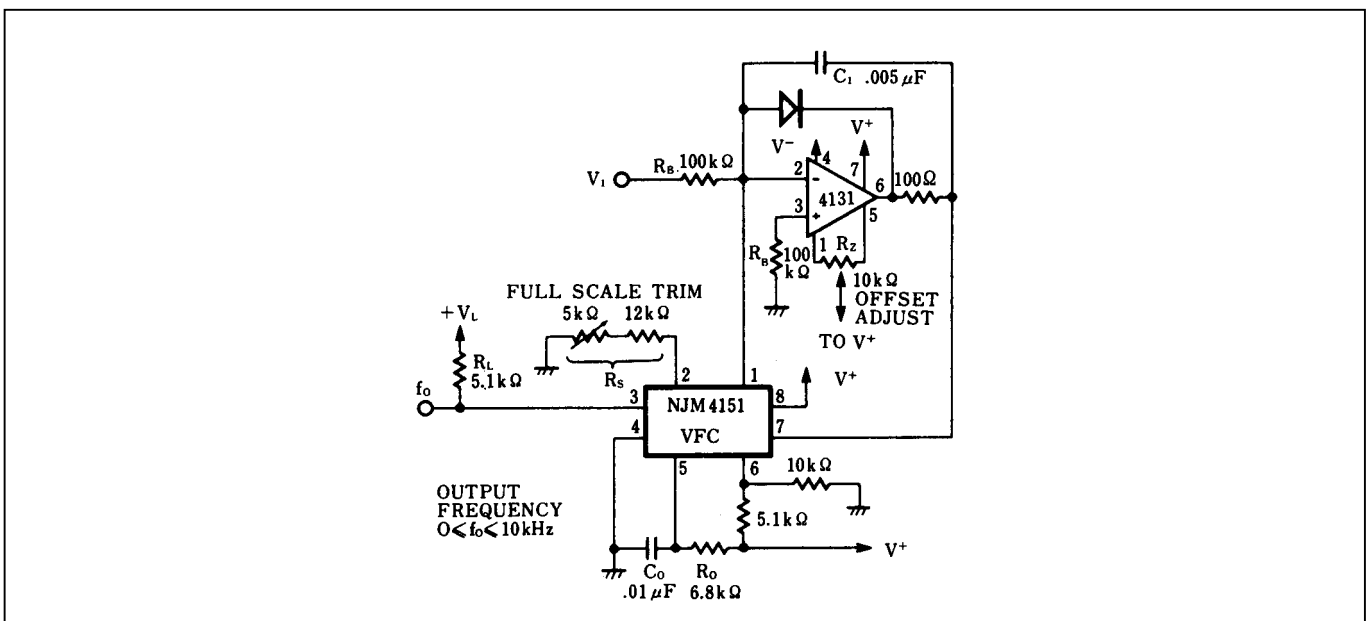

Figure 4. Precision Voltage-to-Frequency Converter
In this application (Figure 4) the NJM4151 VFC is used with an operational amplifier integrator to provide typical linearity of 0.05% over the range of 0 to -10V. Offset is adjustable to zero. Unlike many VFC designs which lose linearity below 10mV, this circuit retains linearity over the full range of input voltage, all the way to 0V.
1. Set  $R_S = 14\text{k}\Omega$  or use a  $12\text{k}\Omega$  resistor and  $5\text{k}\Omega$  pot as shown in the figures. (The only exception to this is Figure 4.)
- b) For the precision mode circuit of Figure 4, set  $R_B = V_{10}/100\mu\text{A}$  where  $V_{10}$  is the full scale input voltage. Alternately the op-amp inverting input (summing node) can be used as a current input with full scale input current  $I_{10} = -100\mu\text{A}$ .
- I. Design a precision VFC (from Figure 4) with  $f_0 = 100\text{kHz}$  and  $V_{10} = -10\text{V}$ .